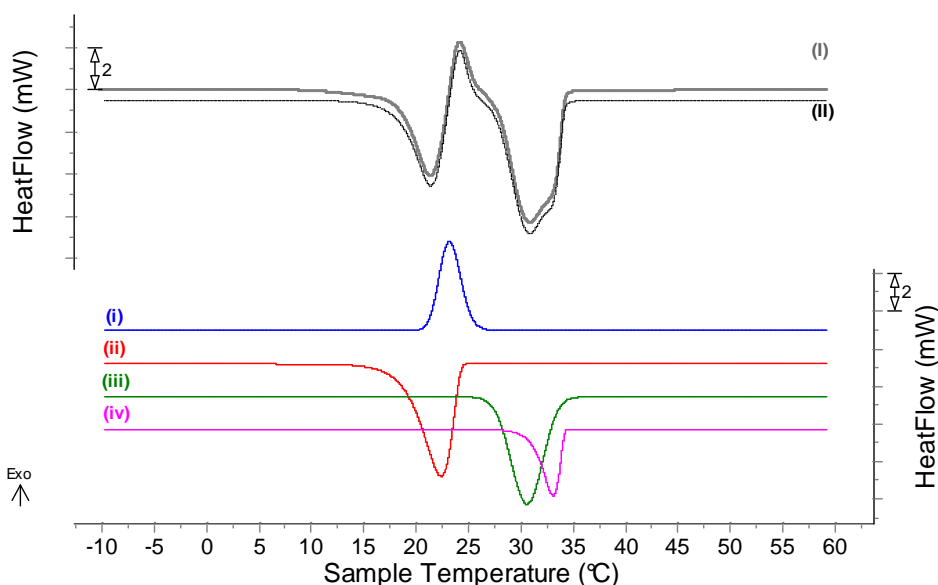

Figure 2 – Typical cocoa butter thermogram and associated peak separation
Figure 2 represents a typical thermogram obtained after heating a 123.04mg cocoa butter sample between -10°C and 60°C at 0.2K.min-1 with a  $\mu$ DSC7Evo. (I) are the experimental data when (i), (ii), (iii), (iv) are the separated peaks using Calisto software, and (II) is the sum of the individual peaks.